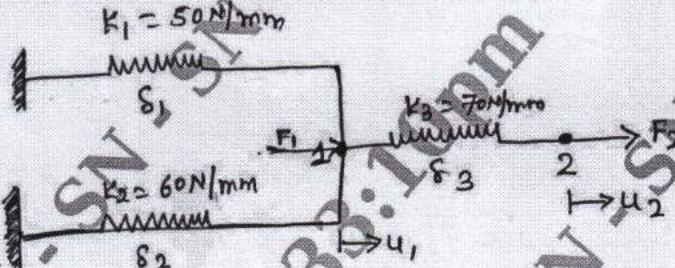

Fig. Q2 (c)
c. For the spring system shown in Fig. Q2 (c), using the principle of minimum potential energy, determine the nodal displacements. Take $F_1 = 75 \text{ N}$, $F_2 = 100 \text{ N}$. (08 Marks)